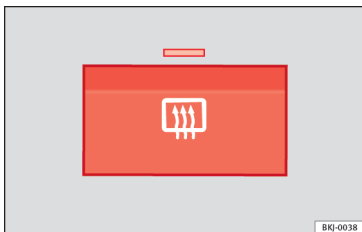

Fig. 126 Together with the air conditioning controls: heated rear window switch.
- Press the demisting button »» Fig. 126